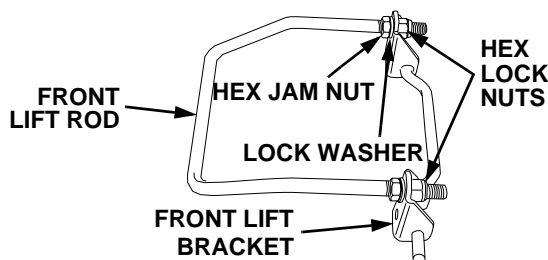

Figure 23
4. Adjust the front lift rod as follows to attain the proper pitch of the mower deck (See Figure 23).